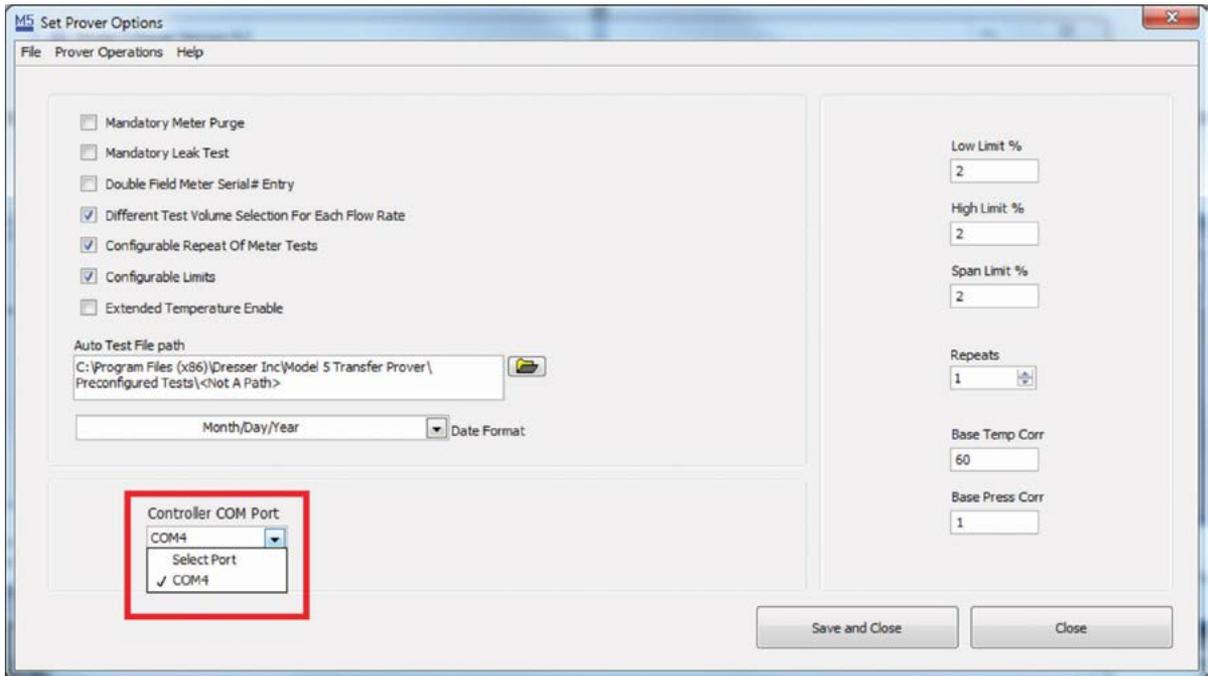

Figure 57: Prover Setup Screen and Controller COM Port
- A second window will appear as shown in **Figure 57**. Take note of the Control COM Port Field. Notice, only COM Ports in use are available for selection. Select the COM port (Refer to **Step 2**.)